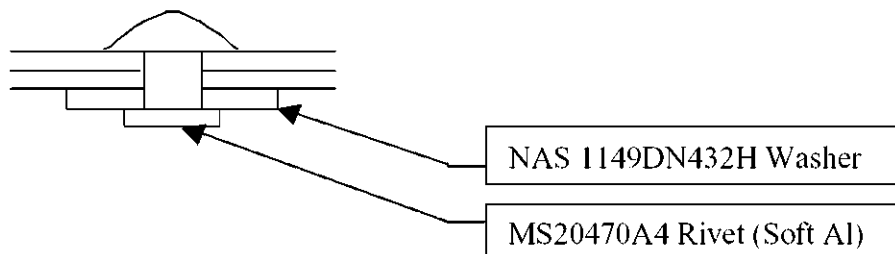

Figure 4-7b. Metal Wire Stitching Repair
4-43b. **Metal Wire Stitching Repair.** (See Figure 4-7b.)
- (1) Substitute two rivets in lieu of each staple where stitching was previously used or is specified. Maintain a minimum of .75 inch spacing between rivets.
- (2) When materials being joined include Stainless Steel, Galvanized Steel or Steel, use:
- (a) MS20615M4 Rivet (Monel) and NAS1149CN432R Washer (See Figure 4-7b.)
- (3) When materials being joined include only aluminum and nonmetallic materials use:
- (a) MS20470A4 Rivet and NAS1149DN432H Washer (See Figure 4-7b.)